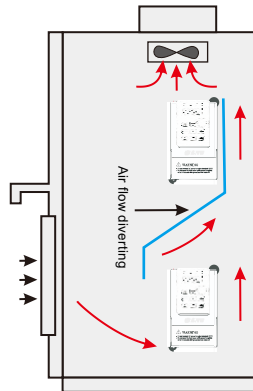

Figure 3-2 Mounting of multiple VFDs
- When several VFDs are installed in one cabinet, they should be mounted in parallel with special incoming and out coming ventilation and special fans. When two VFDs are mounted up and down, an air flow diverting plate should be fixed as shown in Fig.3-2 to ensure good heat dissipation.